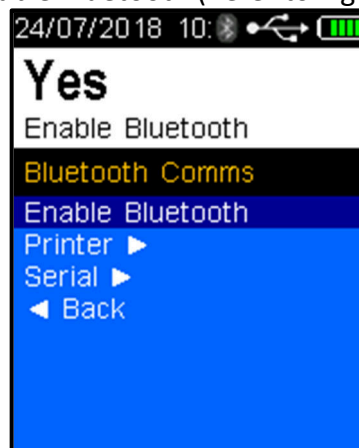

Figure 33 - Enable Bluetooth
- Select the test key to Enable Bluetooth (Refer to Figure 33).